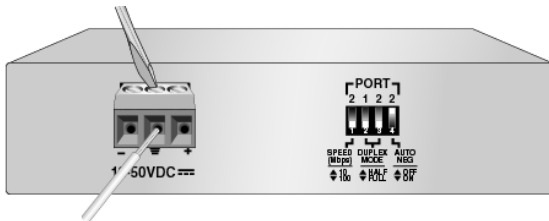

Figure 12 Connecting the Stripped Wire
- Connect the **ground** wire to the terminal marked with the ground symbol by inserting the wire into power connector that comes with the converter and tightening the connection with a flathead screwdriver, as shown in Figure 12.